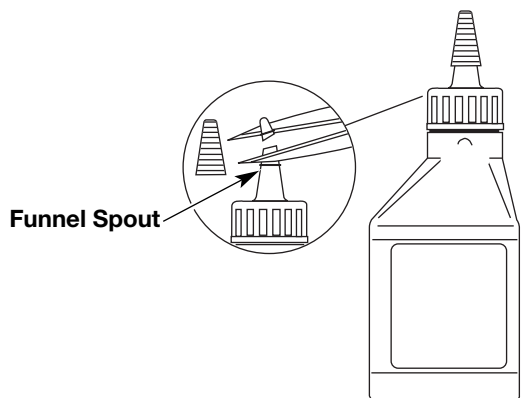

Figure 6
Your unit is supplied with one 3.04 fluid oz. (90 ml.) bottle of SAE 30 SF, SG, SH oil. See Figure 6.
1. Unscrew the top of the bottle of oil and remove the paper seal covering the opening. Replace the top. Next, cut the tip off the funnel spout. See Figure 6.